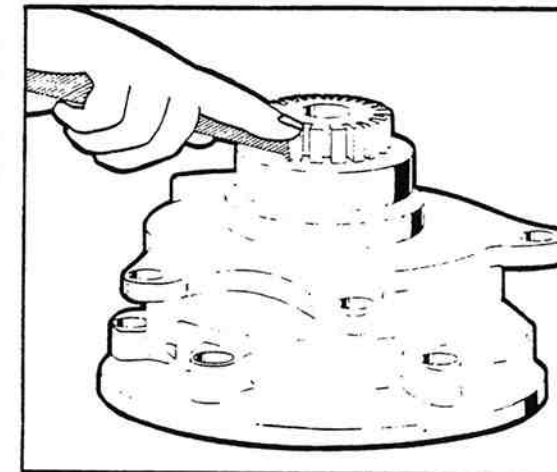

Figure 7-15. Retaining Ring Removal.
2. Remove bearing retaining ring from the adapter housing. (Do not remove retaining ring from shaft.) (Figure 7-15).